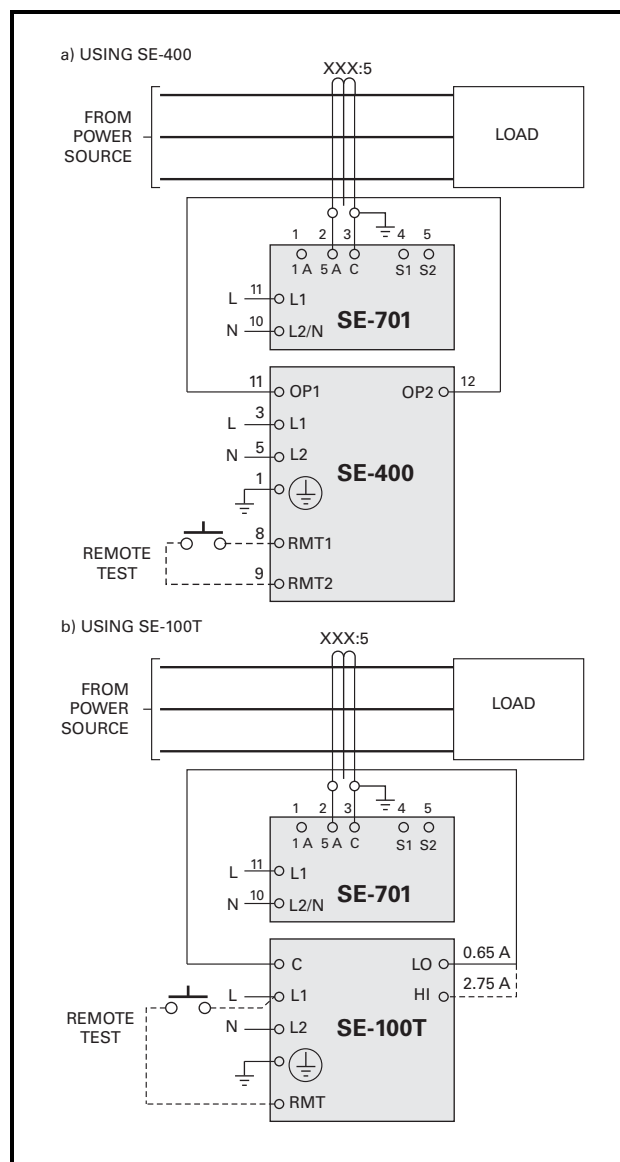

FIGURE 12. Ground-Fault-Test Circuits.
- d) Verify proper reaction of the circuit-interrupting device in response to a simulated or controlled ground-fault current. To simulate ground-fault current, use CT-primary current injection. Fig. 12 (a) shows a test circuit using an SE-400 Ground-Fault-Relay Test Unit. The SE-400 has a programmable output of 0.5 to 9.9 A for a duration of 0.1 to 9.9 seconds. Set the test current to 120% of the SE-701 setting. Fig. 12 (b) shows a test circuit using an SE-100T Ground-Fault-Relay Tester. The SE-100T provides a test current of 0.65 or 2.75 A for testing 0.5- and 2.0-A trip levels. Inject the test current through the current-sensor window for at least 2.5 seconds. Verify that the circuit under test has reacted properly. Correct any problems and re-test until the proper reaction is verified.